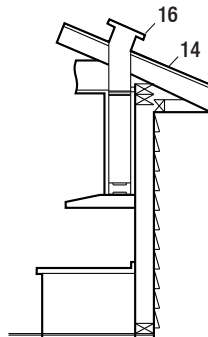

Fig. 4
You must use a top venting system that vents to the outdoors as shown in Fig. 4 and Fig. 5.
- Your venting system must vent to the outdoors either horizontally through the back wall (13) or vertically through the roof (14) (refer to Fig. 4/Fig. 5).